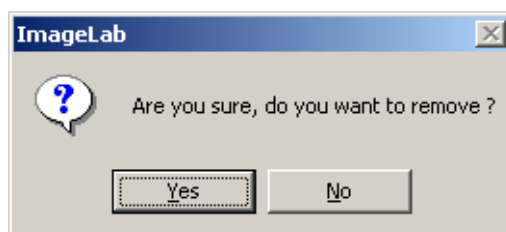

Fig.80 - ImageLab confirm dialog
- 4) Select **Yes** in the confirm request window of fig. 80.